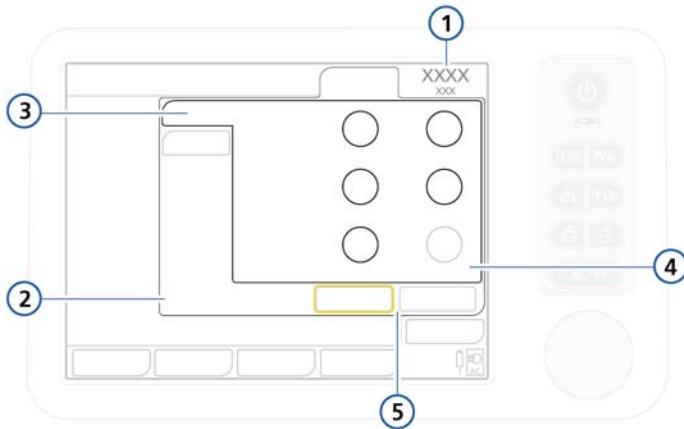

Figure 5-4. Controls window
Once you start ventilation, the selected patient group is displayed below the active mode. See item 1 in Figure 5-4.